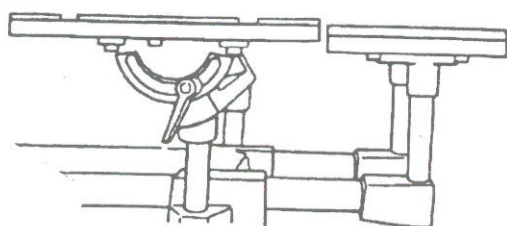

Fig.5
6. Move the worktable next to the extension table and adjust it to about 1/4" above the extension table. See Fig 5.